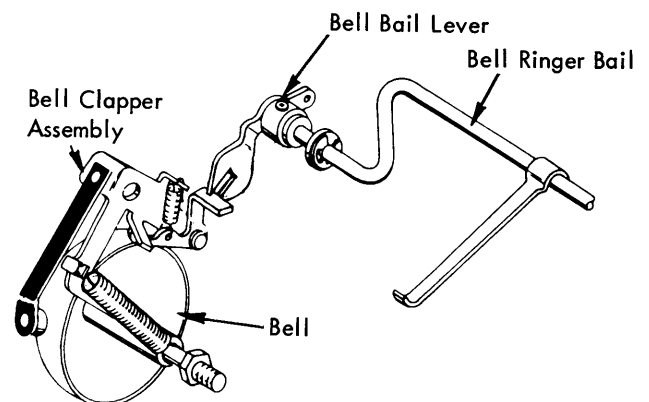

FIGURE 176. Bell Bail Lever (New Style)
- b. New Style - With the carrier positioned away from the right hand margin stop, adjust the bell bail lever located on the left end of the bellringer bail so that when the bottom portion of the lever is allowed to contact the underside of the bell clapper bellcrank lever a clearance of .005" to .020" will exist between the bellringer bail and the bellringer bellcrank (Fig. 176).